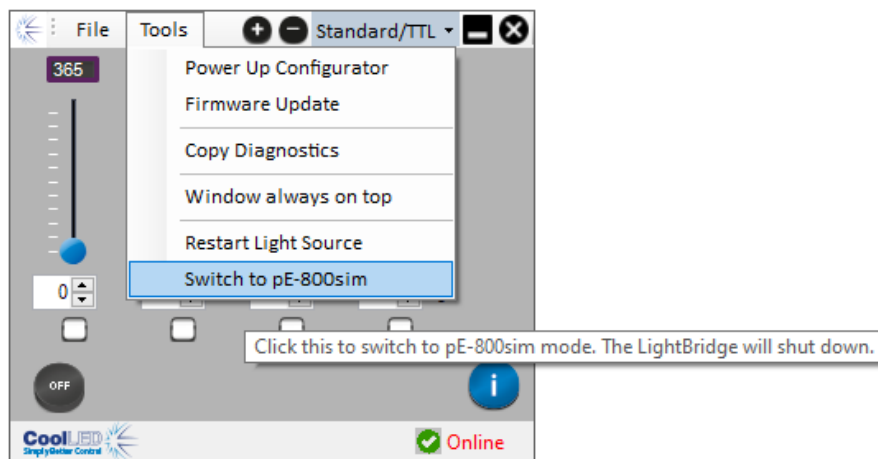

Figure 5: Accessing pE-800sim mode via LightBridge
2. Launch LightBridge, and navigate to 'Tools', and 'Switch to pE-800sim' (Figure 5).